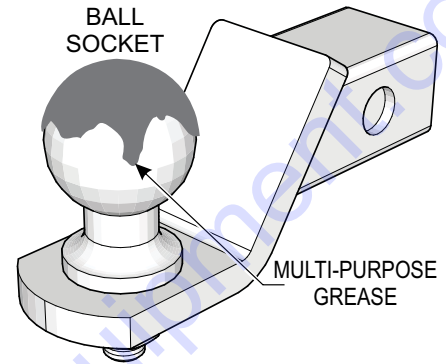

Figure 33. Ball Socket
1. If the towing vehicle is equipped with a ball socket (Figure 33), smear socket periodically with multi-purpose grease. This will keep the ball socket well lubricated.